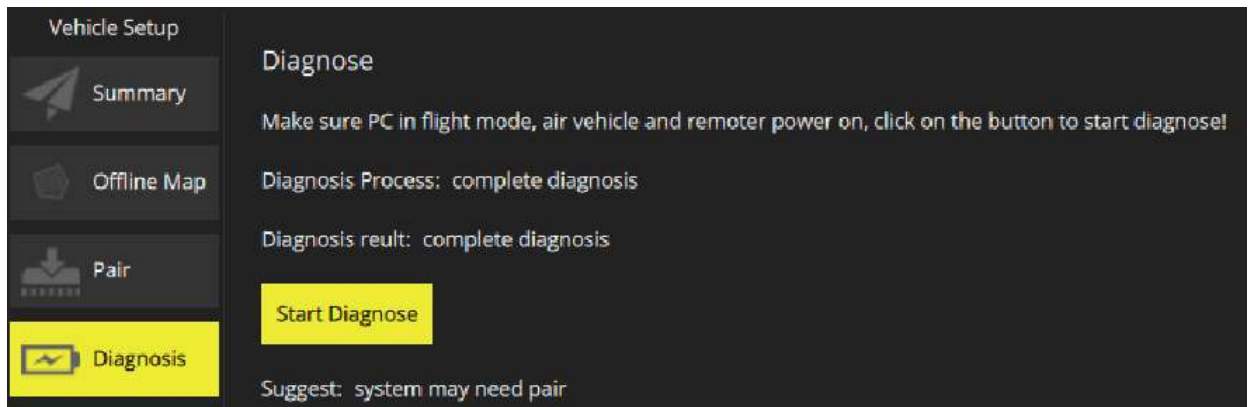

Figure 3-28
Step 3 Display diagnosis suggestion after diagnosis is completed. "Start Diagnosis" button becomes yellow, as shown in Figure 3-28.